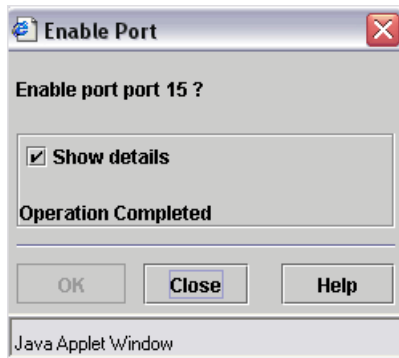

Figure 6-63 EX\_Port enabled
7. We start the port, as shown in Figure 6-63.